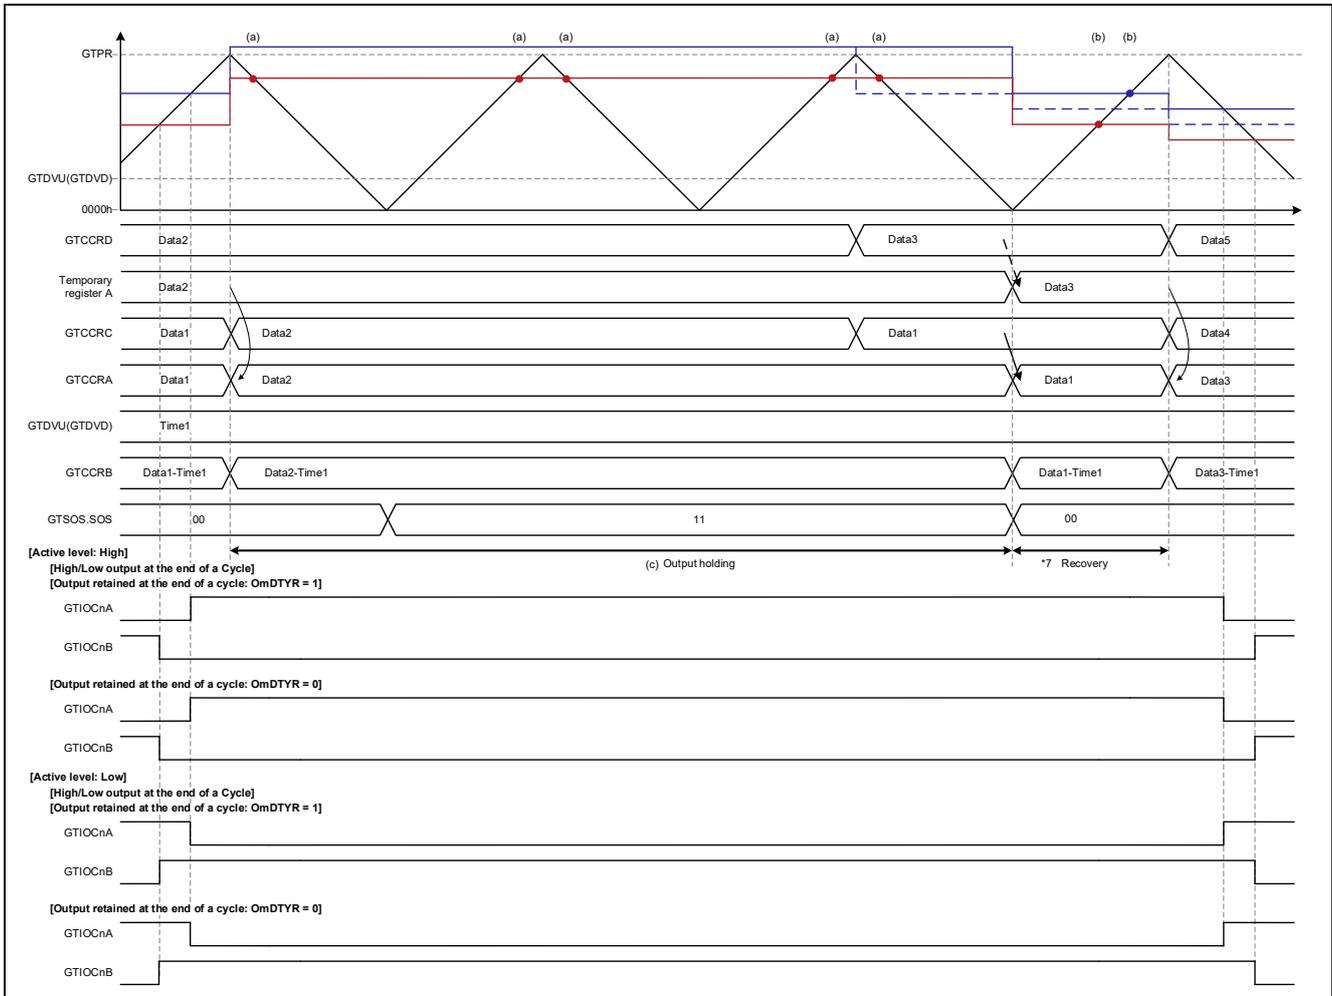

Figure 1.107 Triangle-Wave PWM Mode 3 Operation Example
- Operation Example 8: Figure 1.107 Triangle-Wave PWM Mode 3, Abnormal Value (Transfer at Crest)/Normal Value (Transfer at Trough), caution 7
Figure 1.107 shows an operation example of transfer of a value exceeding GTPR to GTCCRA via buffer transfer at crest and return via buffer transfer at trough of a normal value in triangle-wave PWM mode 3.